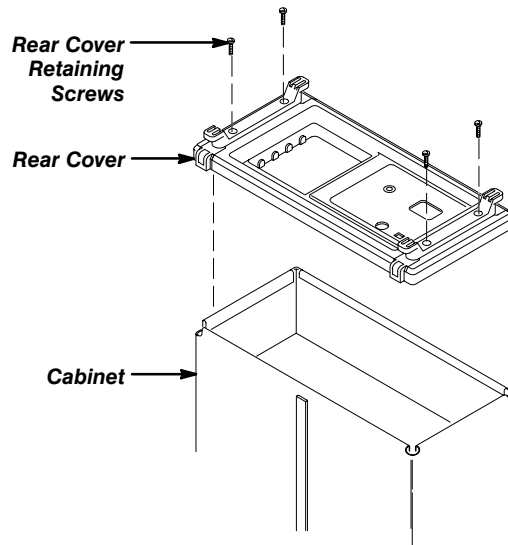

Figure 4: Removing the Rear Cover
- c. Remove the four screws securing the rear cover as shown in Figure 4.